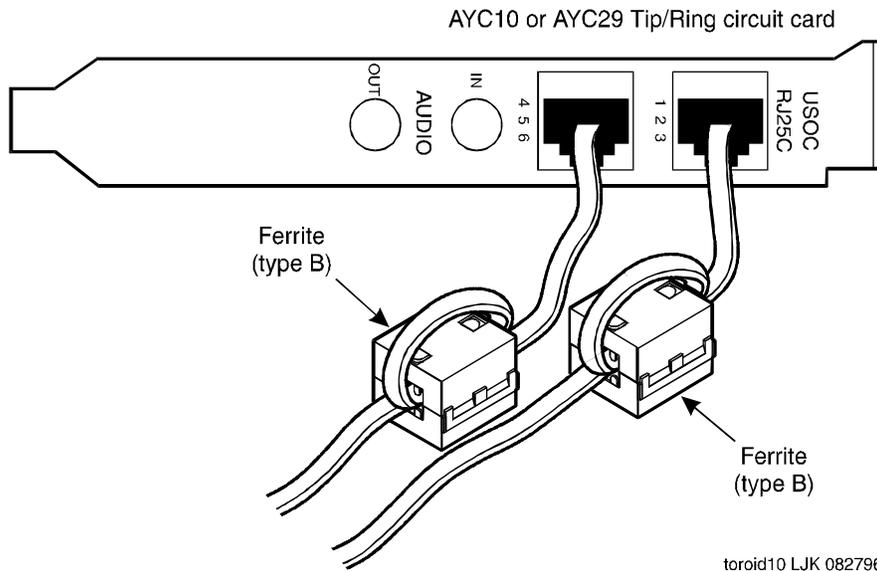

Figure 3-7. Ferrite and Toroid Placement for the AYC10 and AYC29 Tip/Ring Circuit Cards
- Connections to the AYC10 or AYC29 tip/ring circuit cards require 1 ferrite (Type B) on each modular cord. Modular cords should be wrapped 1 turn through the ferrite. See Figure 3-7.